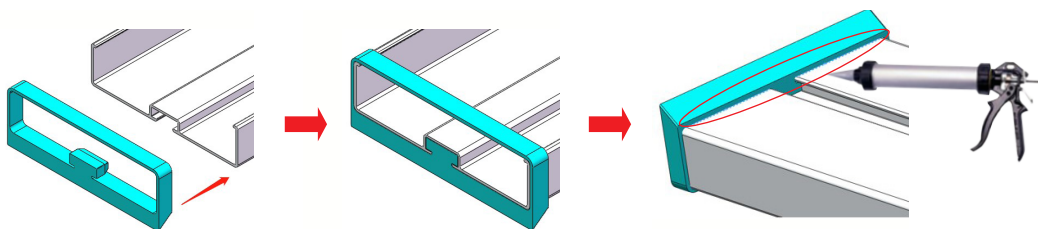

Figure 24
5.6.2 Put the Rubber Ring into the Gutter and plug the bottom slot. Ensure the Rubber Ring is aligned with the ends of Gutter. Glue evenly the connection as shown in Figure 24.